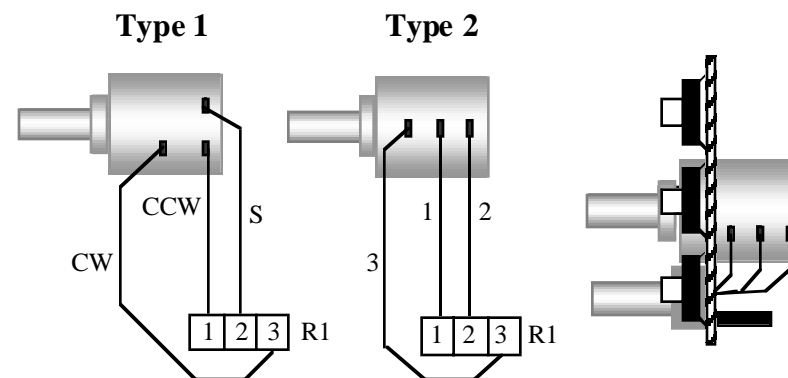

Figure 5-9
- ☐ Locate the 10-turn potentiometer, R1. Look closely at **Figure 5-9**, which shows the positions of the three lugs. The lugs may be labeled 1, 2, and 3, or S, CW, and CCW. 10-turn potentiometer labeling can be confusing, so use the drawing to identify the lugs. **Your potentiometer may be either of the two types shown.**
- ☐ Near the large hole in the board, you'll find three pads for R1's leads (labeled 1, 2, and 3). Referring to **Figure 5-9**, insert the potentiometer's wires into their corresponding holes. **Do not solder yet.**